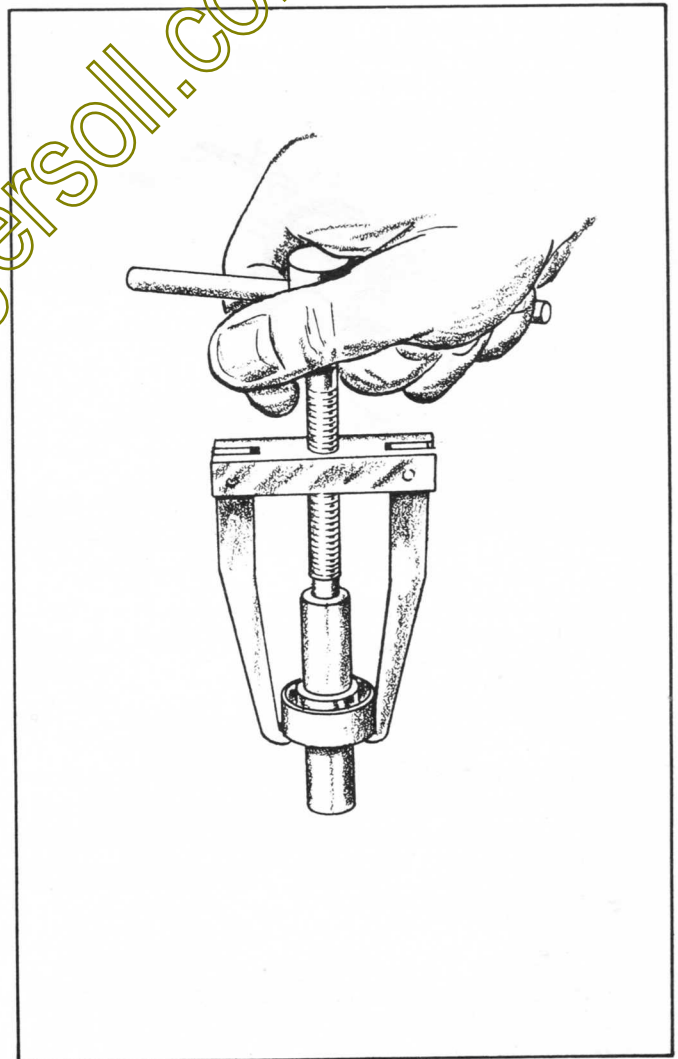

FIGURE 58. MOUNTING OVERRUNING CLUTCH
**NOTE:** (A) Bearing equipped parts must not be immersed in cleaning fluid. These parts should be cleaned with a brush dipped in "Varsol" or any other comparable mineral spirits. (B) Do not immerse overrunning clutch in cleaning solvent. (C) Thoroughly dry any parts that have come into contact with the cleaning fluid.
3. To mount the overrunning clutch; first insert the pinion stopper into the armature shaft, then apply the ring to the groove of the shaft rigidly. For the insertion of the ring, use a tool as shown in Figure 58 and pull the pinion stopper up.